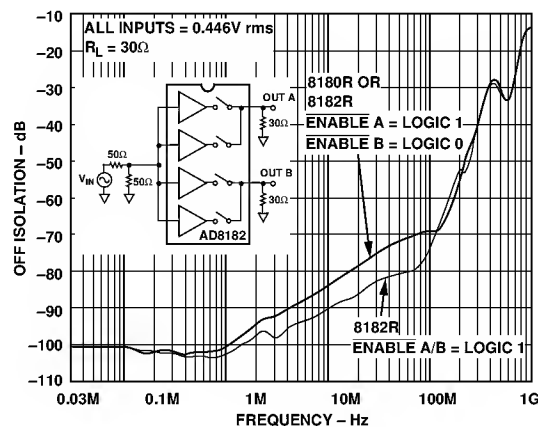

Figure 14. "OFF" Isolation vs. Frequency
- ⁷Mux is disabled (i.e., ENABLE = logic 1) and all inputs are driven simultaneously with $V_{IN} = 0.446$ V rms. Output is monitored at $f = 5$ and 30 MHz. $R_L = 30$ Ω to simulate R_{ON} of one enabled mux within a system (see Figure 14). In this mode the output impedance is very high (typ 10 M Ω), and the signal couples across the package; the load impedance determines the crosstalk.